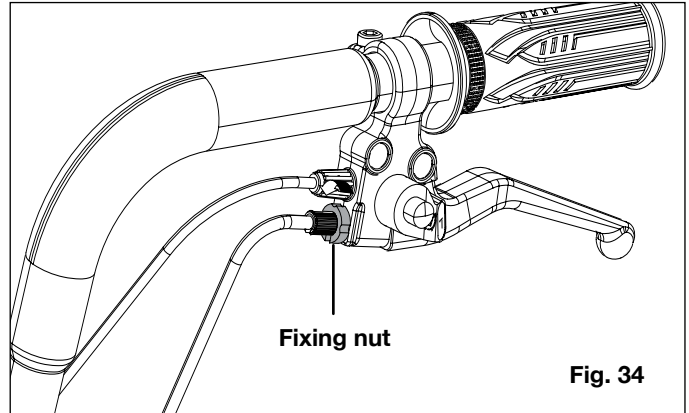

Fig. 34
8. Loosen the fixing nut close to the hand brake by turning it counterclockwise (Fig. 34).